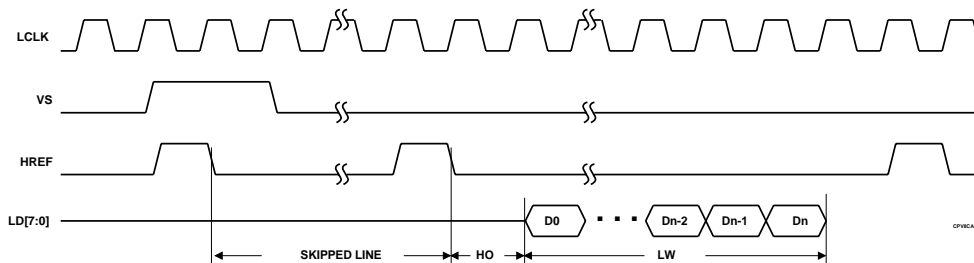

Figure 12-3. Video 8 or 16 Mode Input
The SAA7110 then sends video data as shown in Figure 12-3. In this figure, both VSYNC (VS) and HSYNC (HREF) have active high polarity. The vertical offset (MMFF28_24-16) is 1, meaning the first line is skipped. The horizontal offset HO (MMFF28_11-0) is 1, meaning that the first data starts one clock after the second HREF goes low. HREF goes high again some time after the last byte of the line, whose position is specified by the line width (LW) programmed in MMFF24_11-0. The widths of the VS and HREF pulses shown may vary.